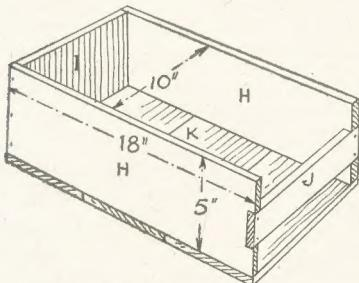

Fig. 2—The lower box frame
The box to take the dust underneath the sifter is made as the diagram Fig. 2 shows. There are two sides (H) 18ins. by 5ins., one end (I) about 10ins. by 5ins.,
one bar (J) cut from stuff about 2ins. wide to the full width of the box. This bar (J) should be let into the sides (H) to come flush with the edges of them, as illustrated in Fig. 2.
The floor of the box may be formed from three or more pieces of stuff cut the full width of the framing and nailed to the underside, as seen in Fig. 2.